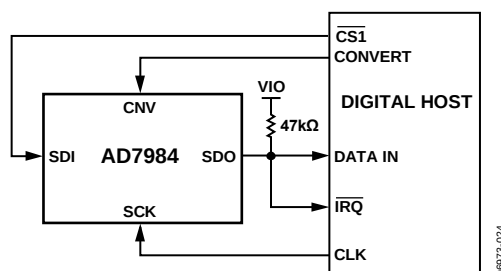
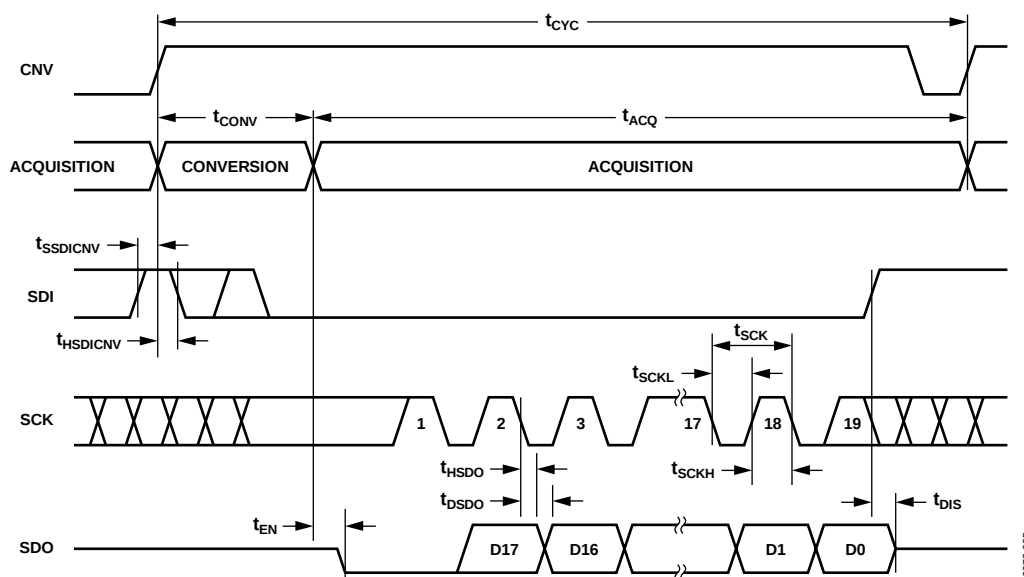

Figure 33. $\overline{\text{CS}}$ Mode, 4-Wire with Busy Indicator Connection Diagram
Figure 34. $\overline{\text{CS}}$ Mode, 4-Wire with Busy Indicator Serial Interface Timing
- In $\overline{\text{CS}}$ mode if CNV or SDI is low when the ADC conversion ends (see Figure 30 and Figure 34).
The connection diagram is shown in Figure 33, and the corresponding timing is given in Figure 34.